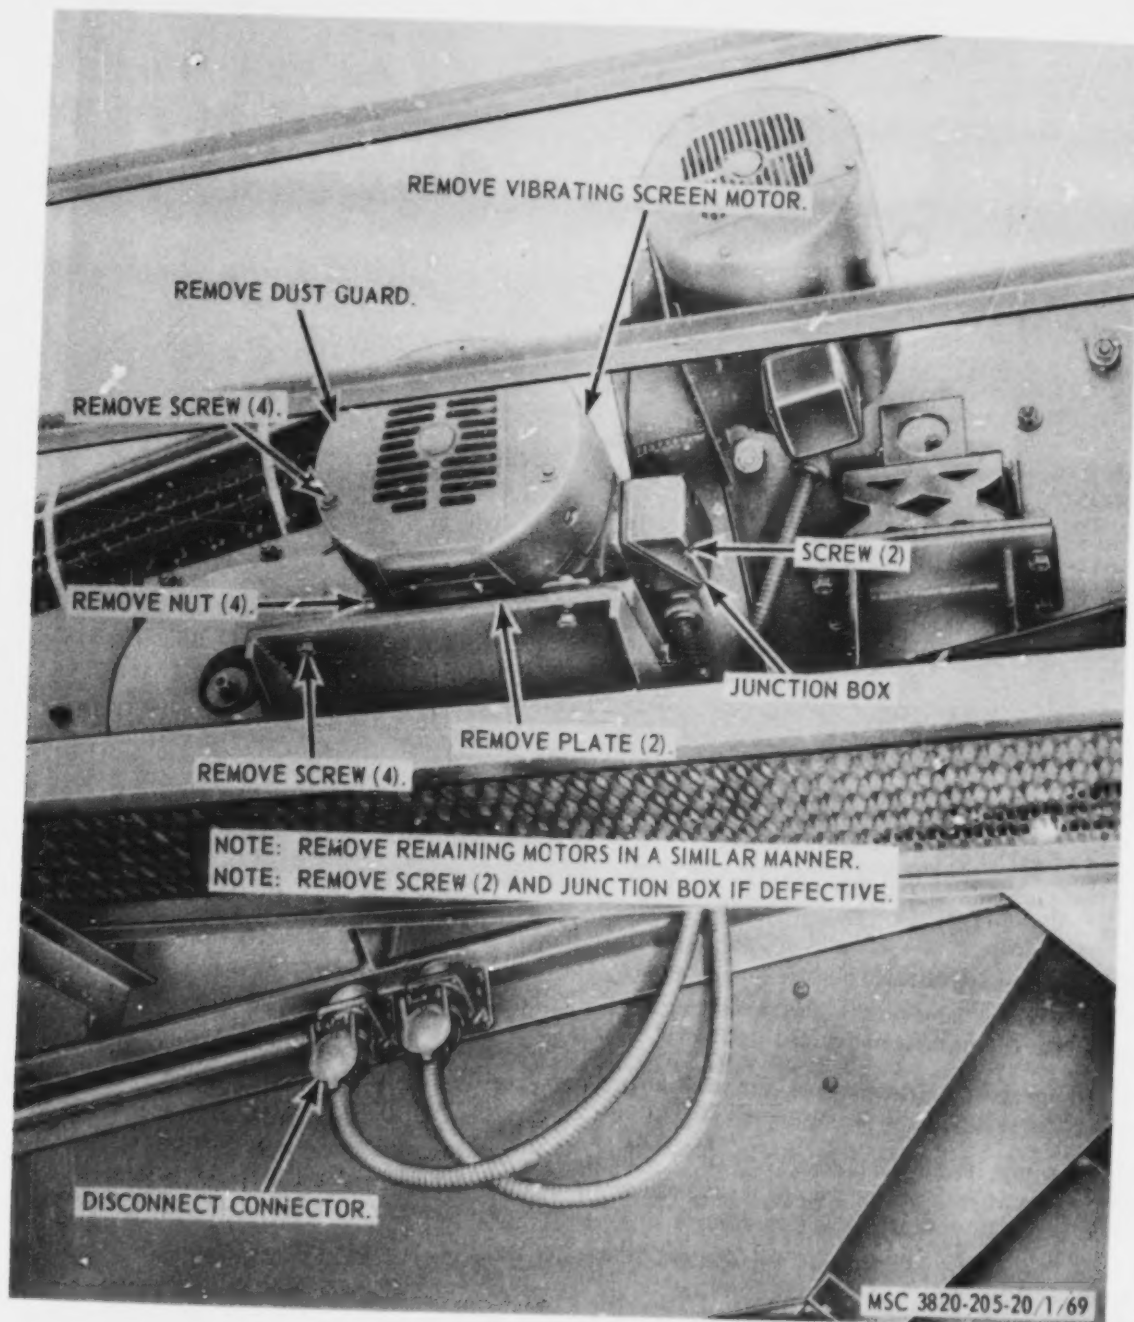

Figure 69. Vibrator screen drive motor, removal and installation.
a. *Removal.* Remove the electric motors from the unit as instructed on figure 69.
c. *Installation.* Install the electric motors on the unit in reverse of the instructions on figure 69.